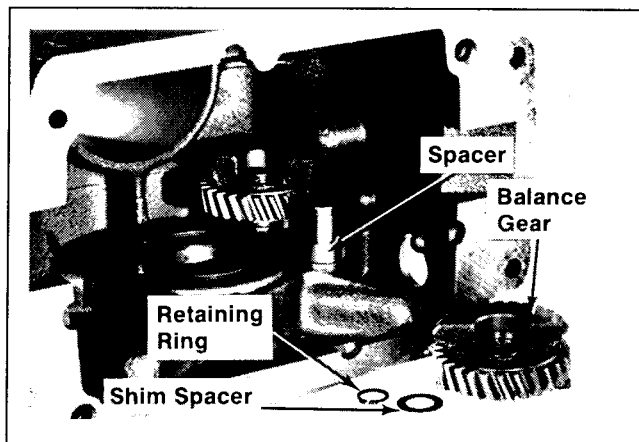

Figure 12-9. Installing Balance Gears.
1. Install the $3/8''$ spacer, one $.010''$ shim spacer, balance gear, one $.020''$ shim spacer, and retaining ring (rounded edge towards balance gear). Refer to Figure 12-9. A new style needle bearing is now being used on the K-Series balance gear assembly.
3. Position the crankshaft so it is about 15° past BDC. Install 3/8" spacer, and one .010" shim spacer. Align the secondary timing mark on the lower balance gear with the secondary timing mark on the crankshaft. Install the lower balance gear on the stub shaft. If properly timed, the primary timing mark on the crankshaft will now be aligned with the secondary timing mark on the lower balance gear. Refer to Figures 12-9 and 12-17.
4. Install one (1) .020" shim spacer and retaining ring (rounded edge towards gear). Check end
play of lower balance gear as instructed under "INSTALL BALANCE GEARS." Refer to Figures 12-9 and 12-10.